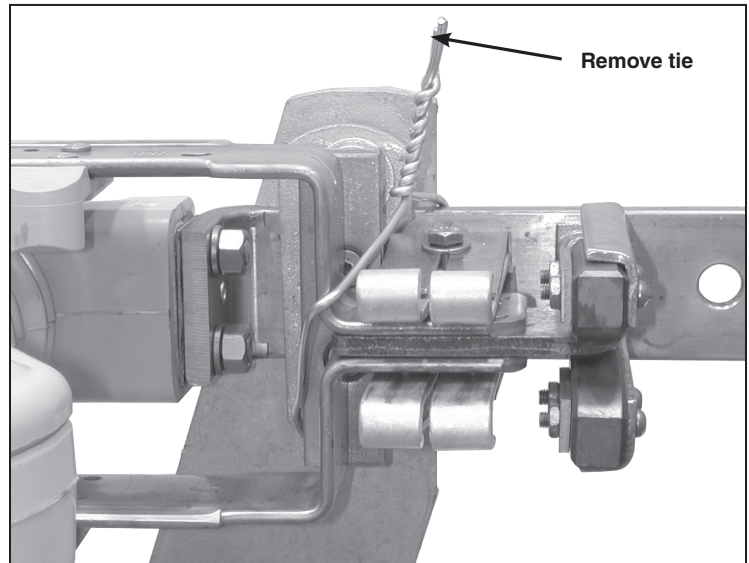

Figure 34. Remove the tie at the stationary main contact assembly.
STEP 34. Remove the ties holding the switch blades to their stationary main contact assemblies. See Figure 34.